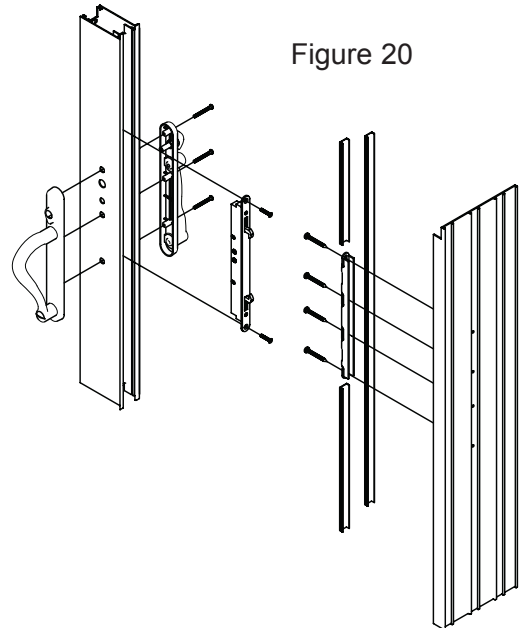

Figure 20
- Attach handles using the three #8-32 x 2 ¼" pan head screws provided. (See Figure 20)
- Check the alignment of the interlocks when in the closed and locked position. (See Figure 20)